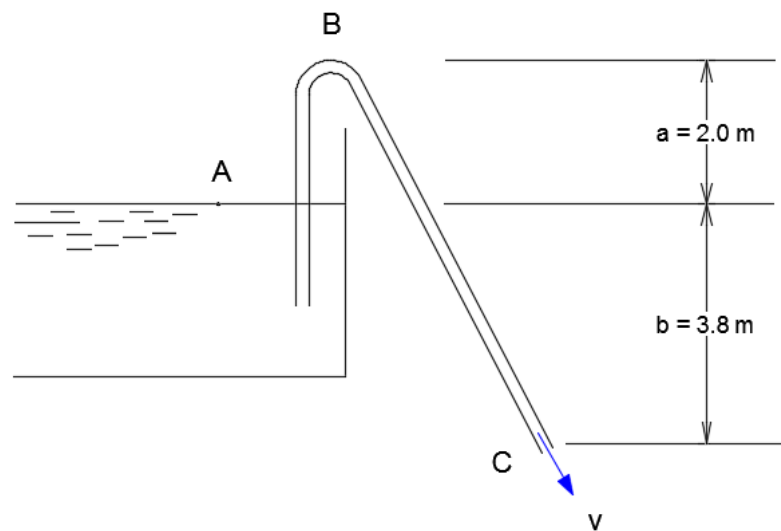

Figure 5
- (b). In **Figure 5**, a siphon with a uniform circular bore of 90 mm diameter and consists of a bend pipe with its crest 2.0 m above water level discharging into the atmosphere at a level 3.8 m below water level. Determine the velocity of the flow, discharge and the absolute pressure at crest level if the atmospheric pressure is equivalent to 10 m of water. Neglect losses due to friction.